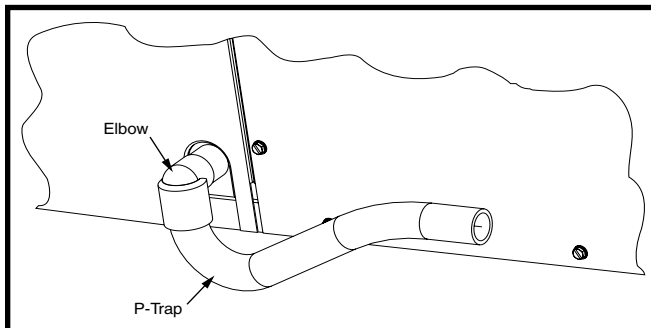

Figure 6. Drain Trap
A 3/4" condensate fitting extends out of the side of the unit as shown in Figure 6. The drain trap, shipped in the electrical compartment, must be installed to prevent water from collecting inside the unit.
2. Connect the condensate tubing onto the fitting, forming a trap (Figure 6) near the drain connection.